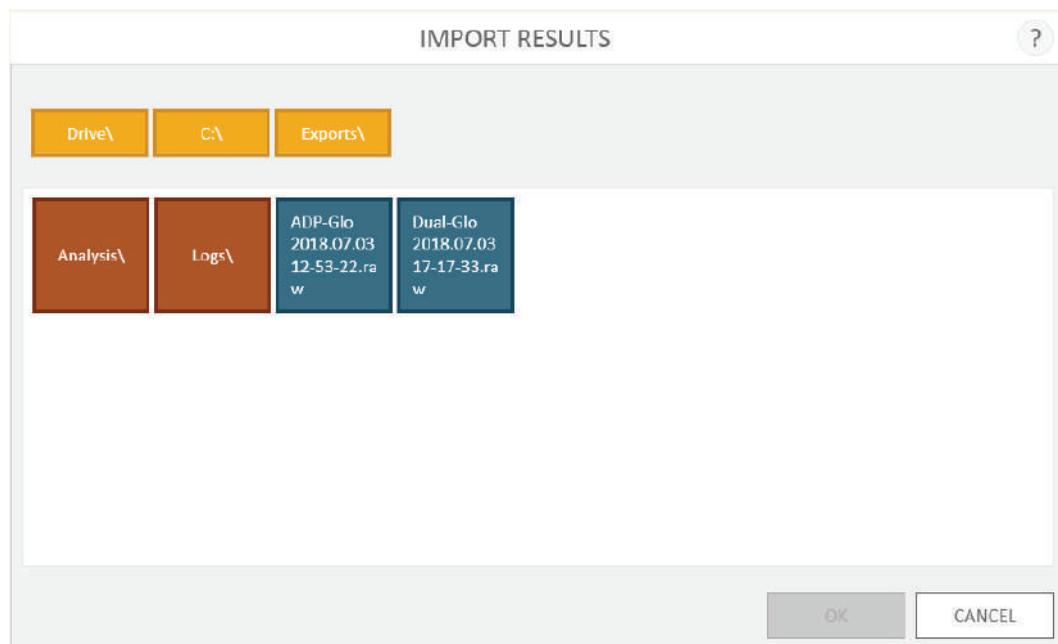

Figure 58. Importing Results, Templates or Analyses. Use the file browser screen to browse to the location of the desired import file.
- c. Touch the **Import** button near the bottom left side of the screen to open the 'Import Results', 'Import Templates' or 'Import Analyses' screen, depending on the current list being viewed (Figure 58).